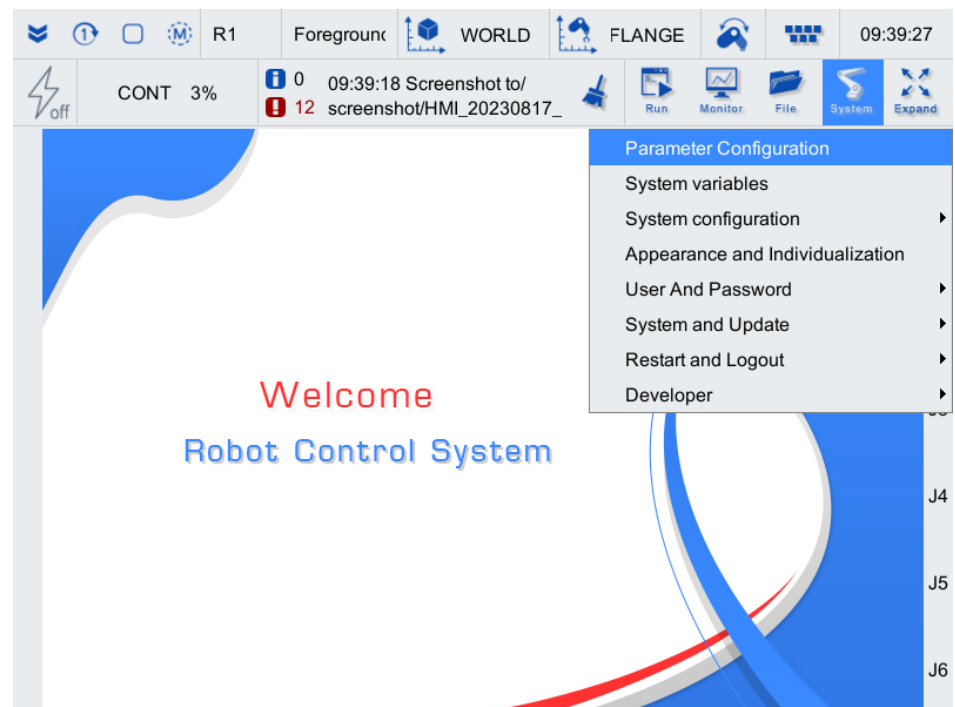

Figure 5-36 System related dropdown list
Step2. Click on [System/Parameter Configuration] in the upper right corner menu area, as shown in Figure 5-36.